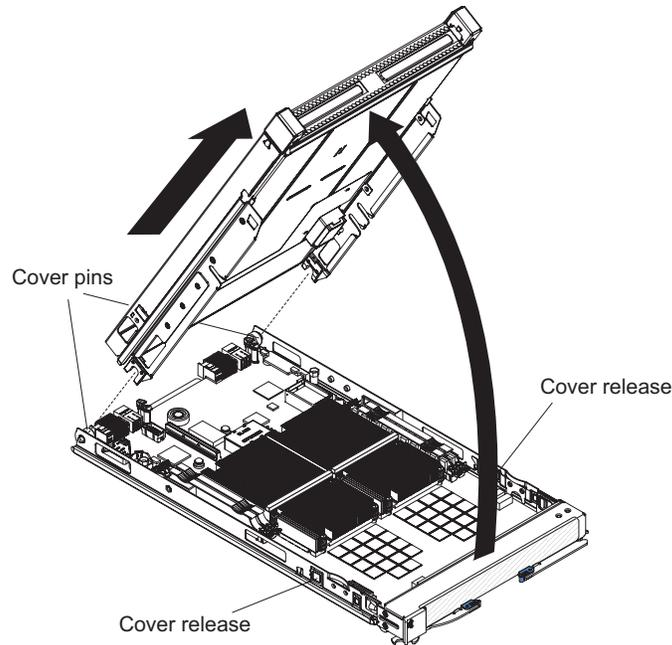

Figure 7. Removing the expansion unit
3. Press the blue blade cover release on each side of the blade server and lift the expansion unit (see Figure 7).